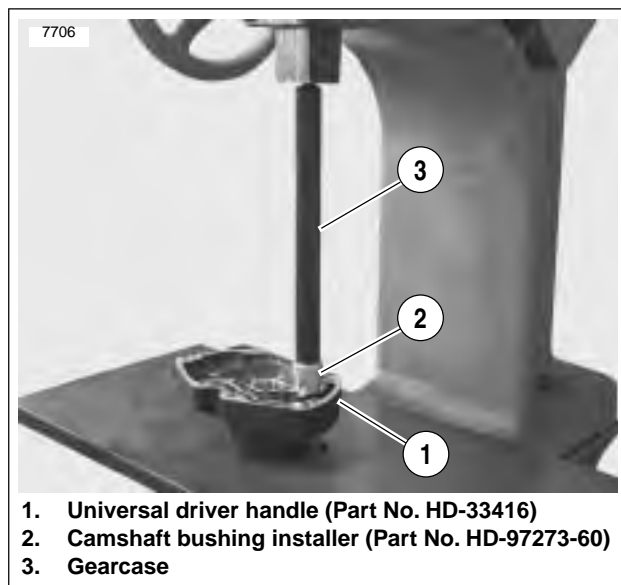

Figure 3-109. Installing Exhaust Cam Gear Bushing
1. See Figure 3-109. Using an arbor press, install the exhaust cam bushing in its gearcase cover bore so that bushing shoulder contacts cover boss. Position the bushing so the oiling slot is at the 3 o'clock position within the gearcase cover bore.